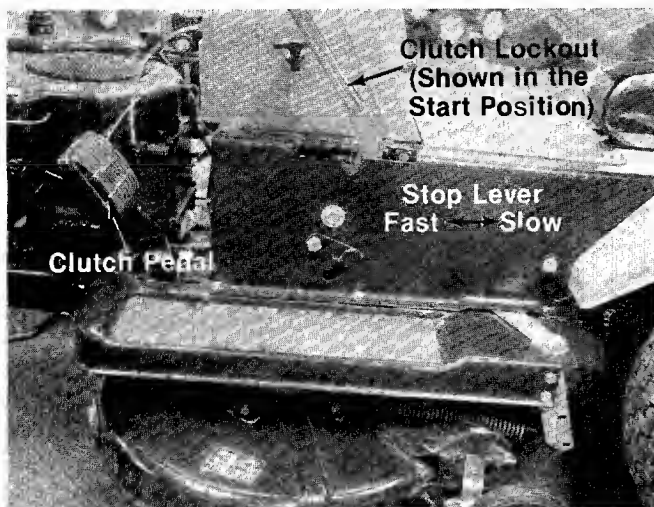

FIGURE 8.
e. **Clutch Pedal.** The clutch pedal is used to disengage the drive mechanism. Depressing the clutch pedal at any time will reduce mower speed. If depressed all the way, it will stop the mower. See figure 8.
f. **Clutch Lockout.** When the clutch pedal is depressed all the way it can be locked by placing the clutch lockout in the "START" position as shown in figure 8. The clutch lockout must be in this position before the engine will start.
g. **Stop Lever.** The stop lever allows you to regulate the maximum ground speed of the riding mower by setting the stop lever in any one of the five settings. The farther forward the stop lever is set, the faster the ground speed. See figure 8.
2. Place the clutch lockout in the "START" position. See figure 8.